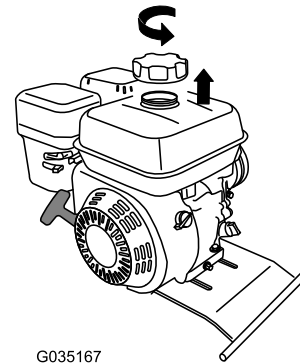

Figure 51
2. Remove the fuel cap by rotating it counterclockwise (Figure 51).